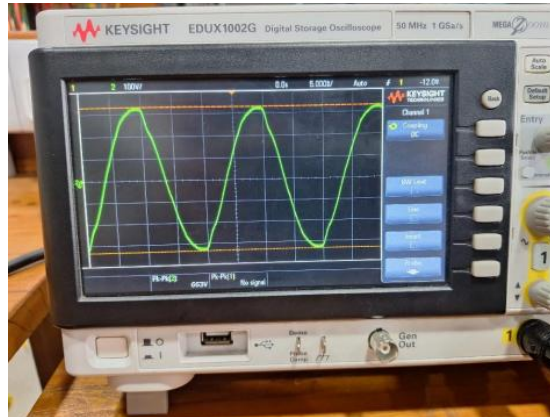

Figure 05: Open circuit voltage waveform
1. Connect the circuit as shown in Figure 05.